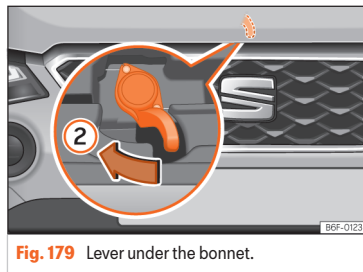

Fig. 179 Lever under the bonnet.
- To lift the bonnet, press towards the left on the lever located under the bonnet, in the centre >>> **Fig. 179 ②**. The fastening hooks are unlocked.